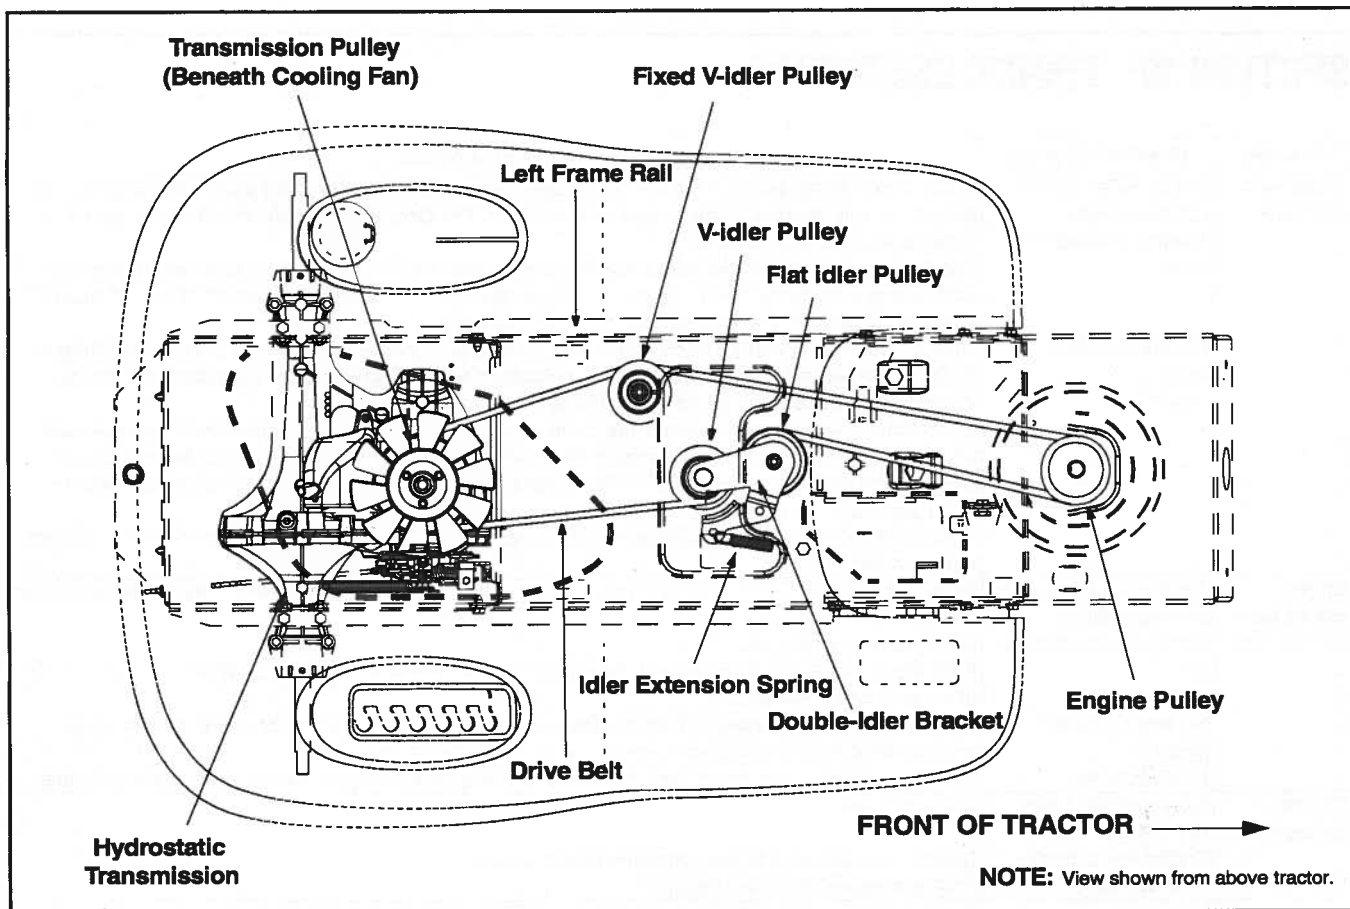

Figure 21
- Locate the fixed v-idler pulley found on the left underside of the frame. See Figure 21.
- Grasp the belt on both sides of the pulley and gently move it toward the left frame rail allowing it to unseat itself from the fixed v-idler. See Figure 21.
- Remove the drive belt by feeding it from front to rear, toward the hydrostatic transmission. See Figure 21.
- Reroute the new belt around the pulleys and belt keepers, if present, **EXACTLY** as the old one was routed. Refer to Figure 21.